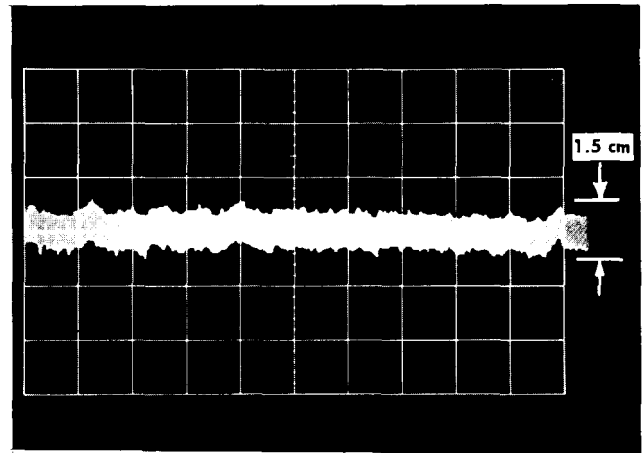

Fig. 5-4. Maximum random trace shift at 5 sec/cm, stored.
e. Check stored display for ≤ 1.5 centimeters peak to peak. See Fig. 5-4.